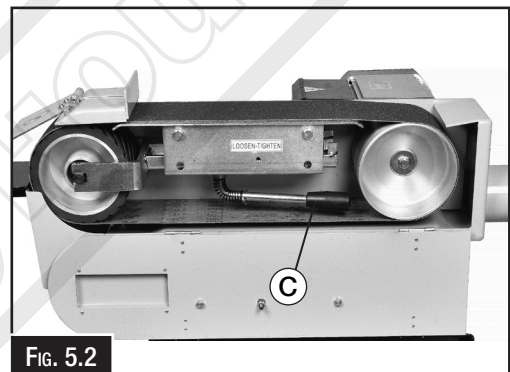

Fig. 5.2
- C. Belt Tension Lever:** Releases and engages the belt tension when removing or replacing. (Fig. 5.2)